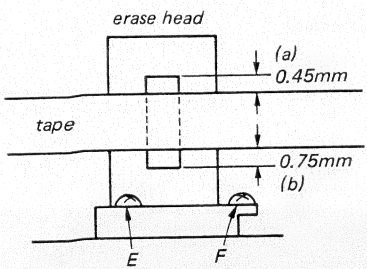

Fig. 2
5. Confirm that the erase head height is as shown in Figure 2.